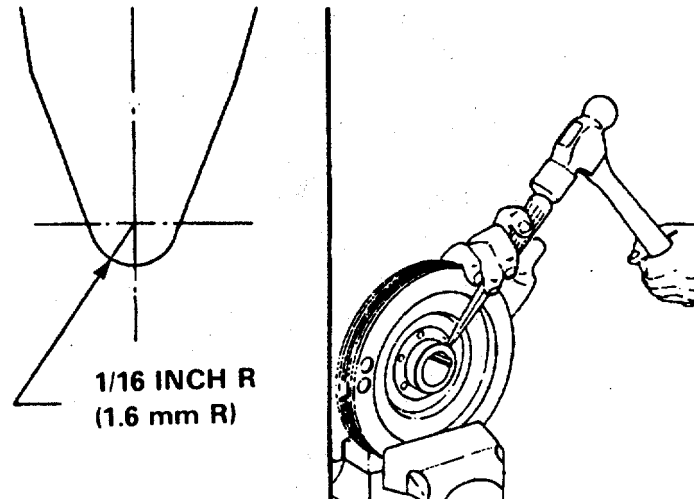

FIGURE 3-46. *Relieving Press Fit.*
- (1) Put the accessory drive pulley (14) in a vise.
- (2) Grind a 0.062 inch (1.57 mm) radius on the cutting edge of a 0.75 inch (19.05 mm) chisel.
- (3) Put the chisel against the pulley wear sleeve (10). Use a hammer to strike the chisel at four points on the outside diameter of the pulley wear sleeve (9) to relieve the press fit (FIGURE 3-46).
- (4) After the press fit has been relieved, remove the pulley wear sleeve (10) by hand.